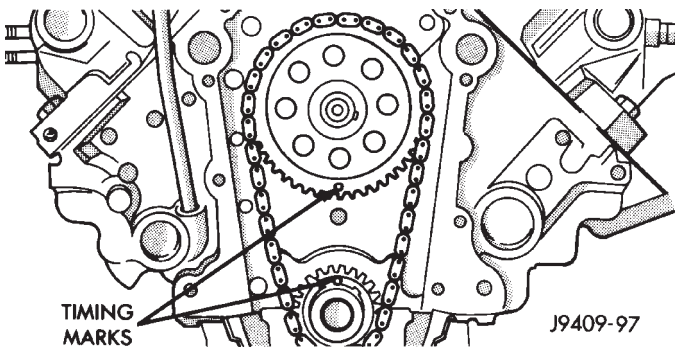

Fig. 30 Alignment of Timing Marks
(5) Place both camshaft sprocket and crankshaft sprocket on the bench with timing marks on exact imaginary center line through both camshaft and crankshaft bores.
(6) Place timing chain around both sprockets.
(7) Turn crankshaft and camshaft to line up with keyway location in crankshaft sprocket and in camshaft sprocket.
(8) Lift sprockets and chain (keep sprockets tight against the chain in position as described).
(9) Slide both sprockets evenly over their respective shafts and use a straightedge to check alignment of timing marks (Fig. 30).